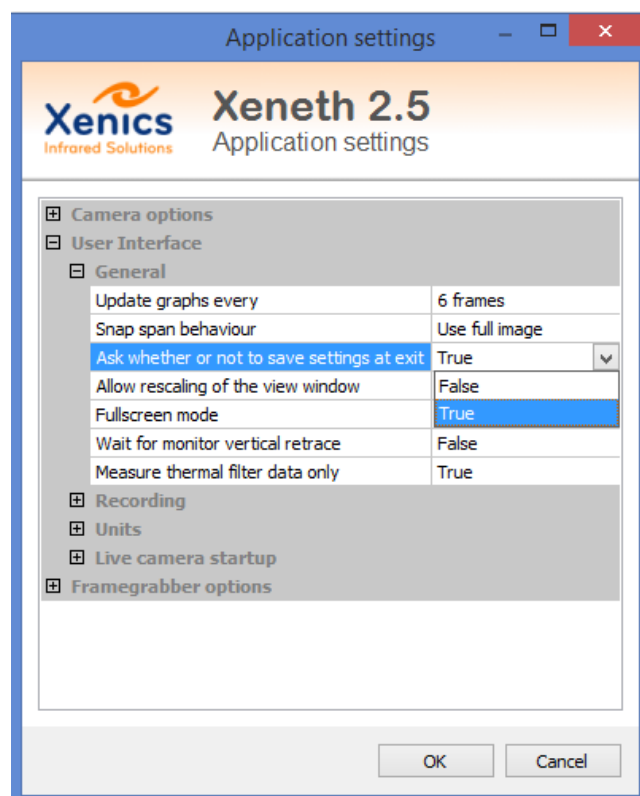

Figure 12-4 Save settings.
- If once “No” and “Do not ask me again” is chosen on the Save Settings dialog, the Save settings dialog will never appear again. To be able to show the “Save Settings” dialog again, set “Ask whether or not to save settings at exit” on the Connection Dialog on true (as shown in Figure 12-4).